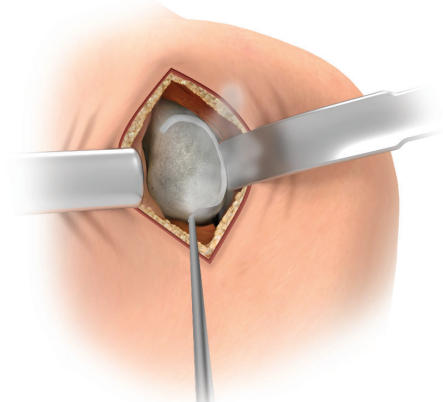

Figure 3
**Ensure to preserve glenoid osteophytes since the Signature™ ONE Guide is designed to mate with them.** Prepare the anatomy and remove as much soft tissue in and around the glenoid as needed to allow for optimal Signature™ ONE Guide fit and placement. Specifically, remove the entire capsulolabral complex on the anterior and inferior rim of the glenoid, approximately 11 to 6 o'clock on a left shoulder (Figure 3). Proceed with additional capsule releases surrounding the anterior and inferior rim of the glenoid as necessary. When placed correctly, the guide will fit snugly against the face and the anterior rim of the glenoid.